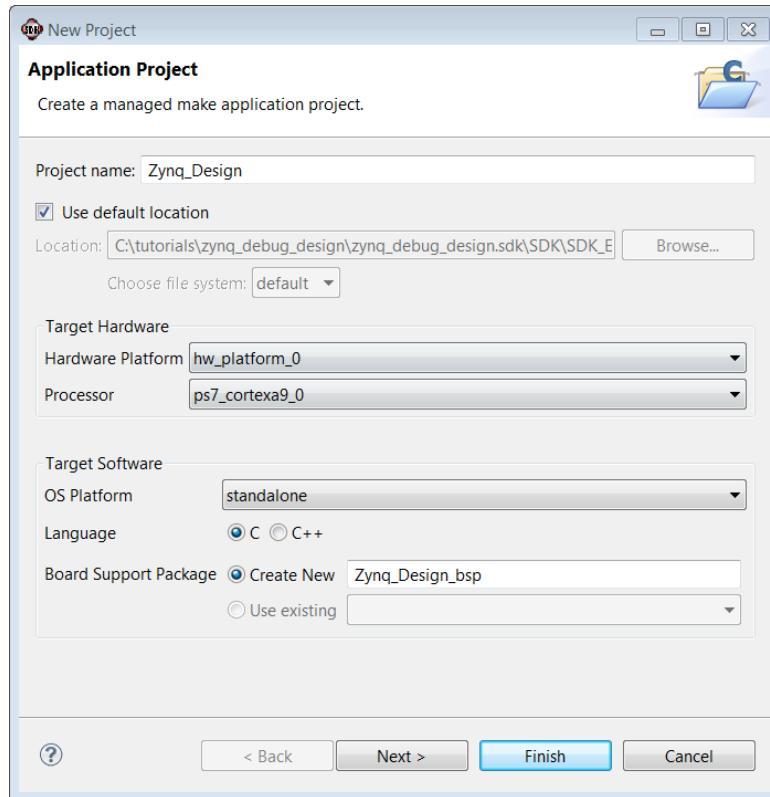

Figure 48: SDK Application Project
5. In the Project Name field, type **Zynq_Design**, and click **Next** (Figure 48).